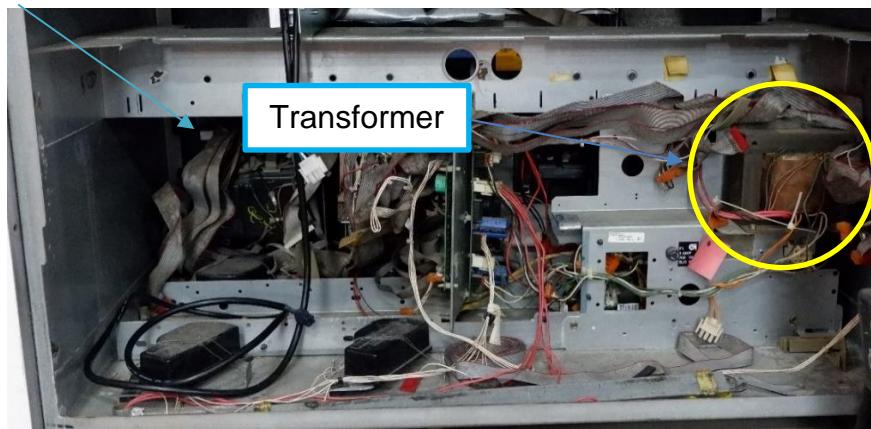

Fig 2.2b – Side B view.
**Note:** Because the serial tag is printed on both sides and there may not be a J-Box, there is often not an apparent marker to identify the Side-A of the dispenser on the Encore 300, 300Q, 500 or 500Q without first opening the dispenser. The easiest method is to open the access door and observe the transformer positions at the bottom right corner on the backside of the dispenser cabinet (Side B has the transformer, see Fig. 2.2b)